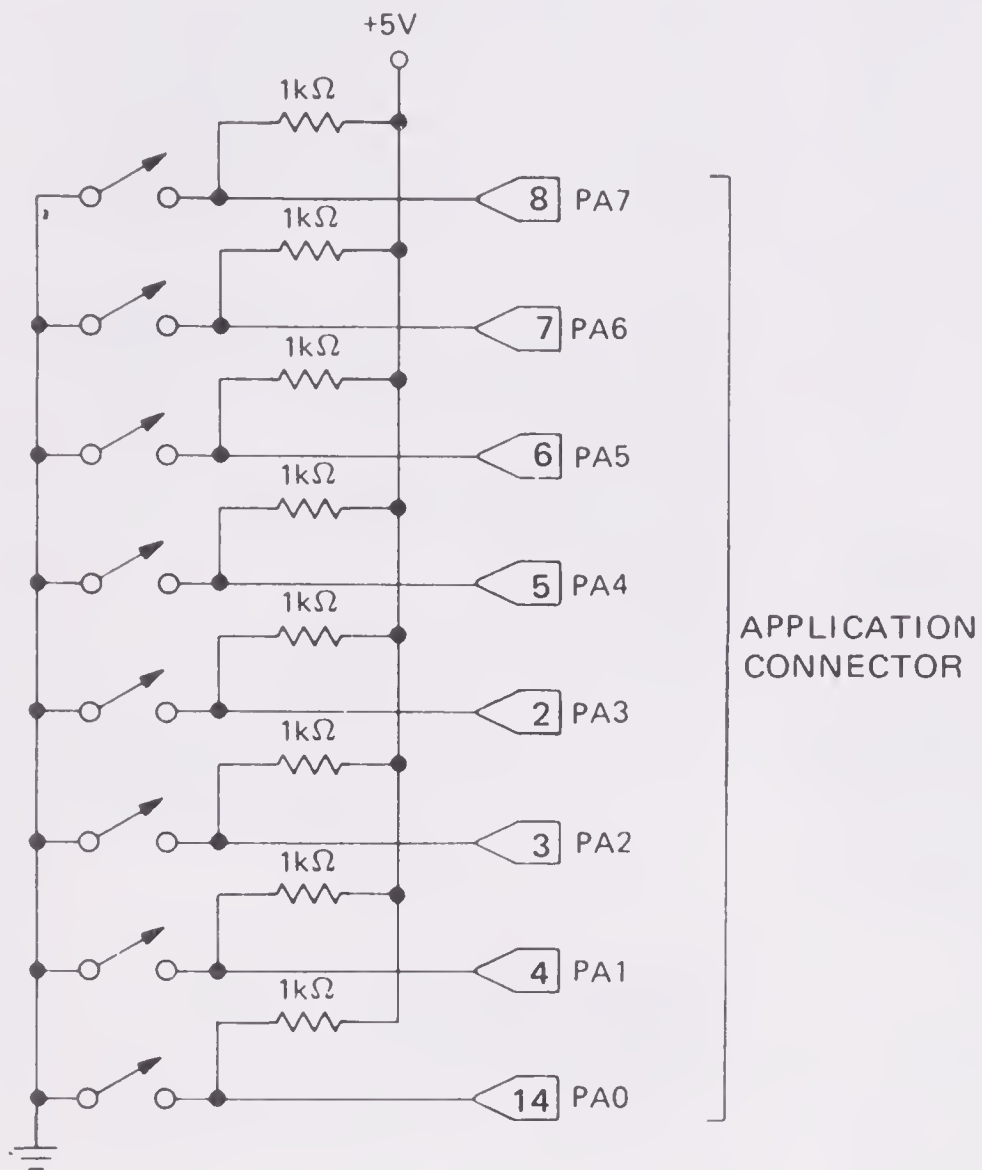
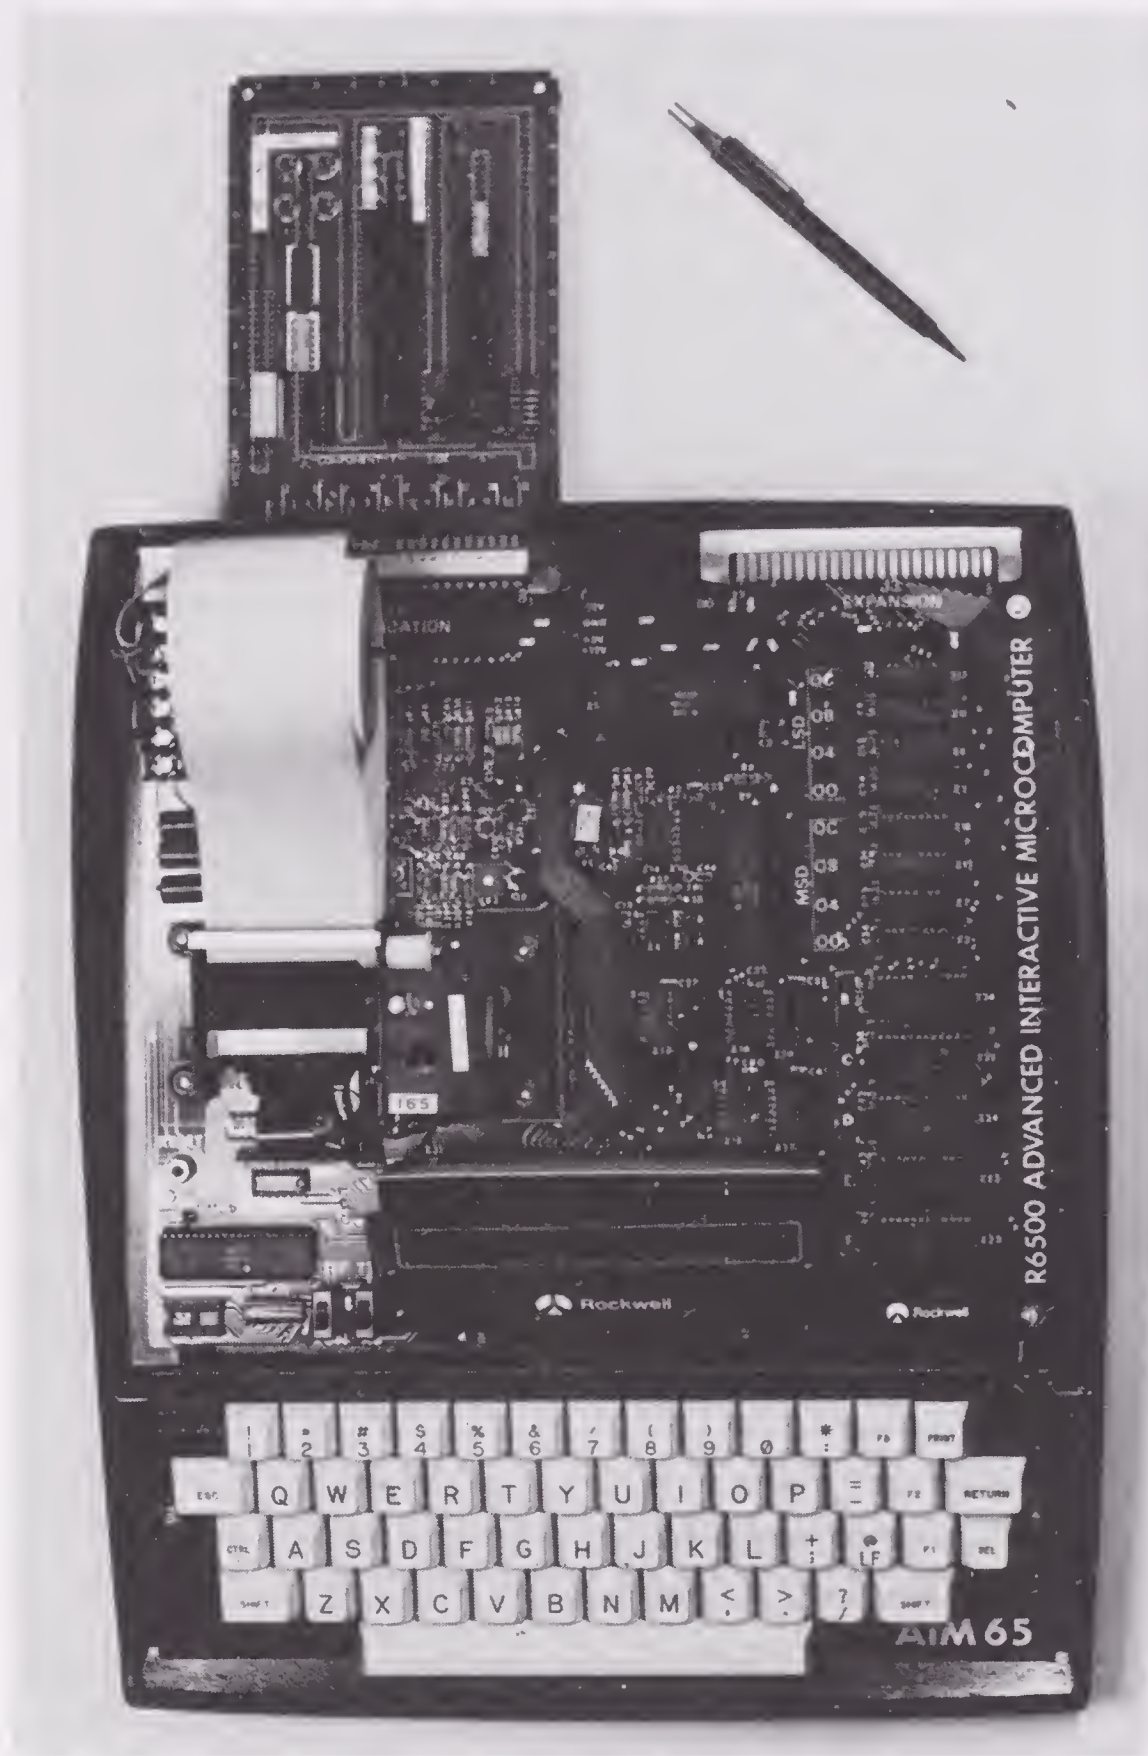

FIGURE A4-1. Attachment of switches to the Application Connector.
FIGURE A4-9. The AIM 65 microcomputer connected to the laboratory experiment board. (Courtesy of Carter Stafford.)
**FIGURE A4-8.** Connection of the external clock to bit 5 of port A of the user VIA. (Note: Jumper wires can be used to select either this input or the switch input shown in Figure A4-1.)
The example laboratory setup was constructed on a Vector 3677-2 prototyping board. Figure A4-9 shows the prototyping board and its connection to the AIM. Figures A4-1 through A4-8 and Table A4-1 describe the circuitry on the board in detail. A complete laboratory interface board (MICROLAB™) is also available from Cambridge Development Laboratory, 36 Pleasant St., Watertown, MA 02172.